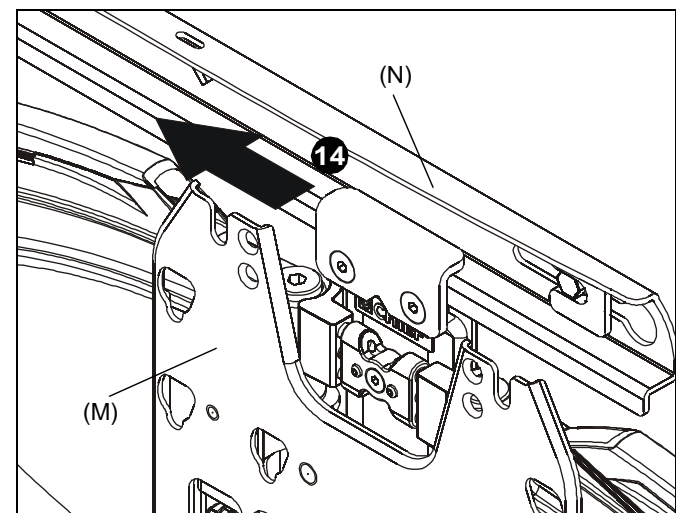

Figure 9
14. Slide main assembly (M) back onto wall rail (N). (See Figure 9)